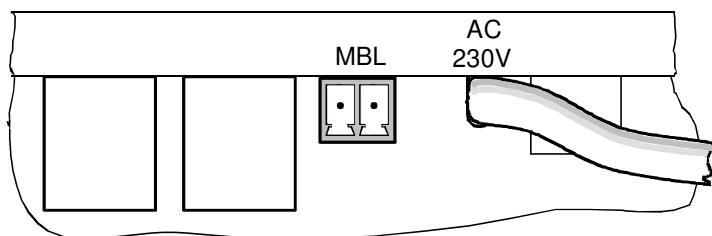

Fig. 6
- Connect „MOBALine“ signal to the "MBL" connector (refer to Fig. 6).